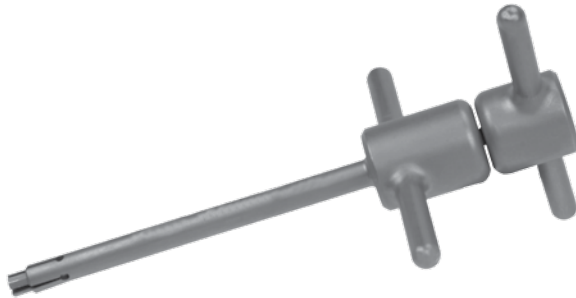

Fig. 144
- Attach the new hinge pin from the *NexGen* RH Knee Cement Shield Servicing Kit to the Expandable Hinge Pin Driver (Fig. 144).